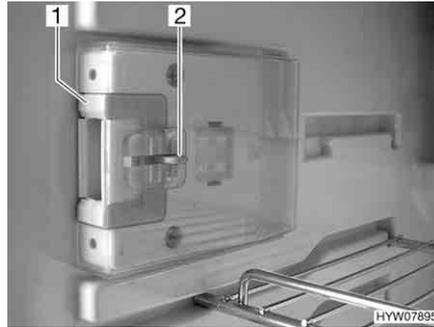
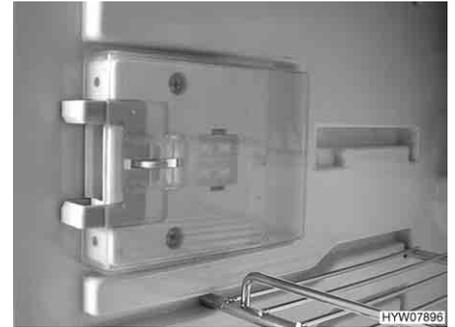

Fig. 157 Locking device in normal position
Fig. 158 Locking device in ventilation position
- Press down the unlocking device (Fig. 157,2).
- Push locking device (Fig. 157,1) forwards (Fig. 158).